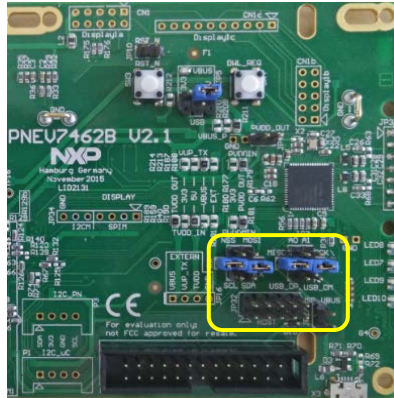

Fig 21. Host Interface selection - HSU
The yellow marked jumpers (Fig 21) needs to be set to select HSUART host interface. This will connect the UART\_RX of the PN7462AU to the I/O P0(0), UART\_TX of the PN7462AU to the I/O P0(1) of the LPCXpresso board extension m-bed connector.